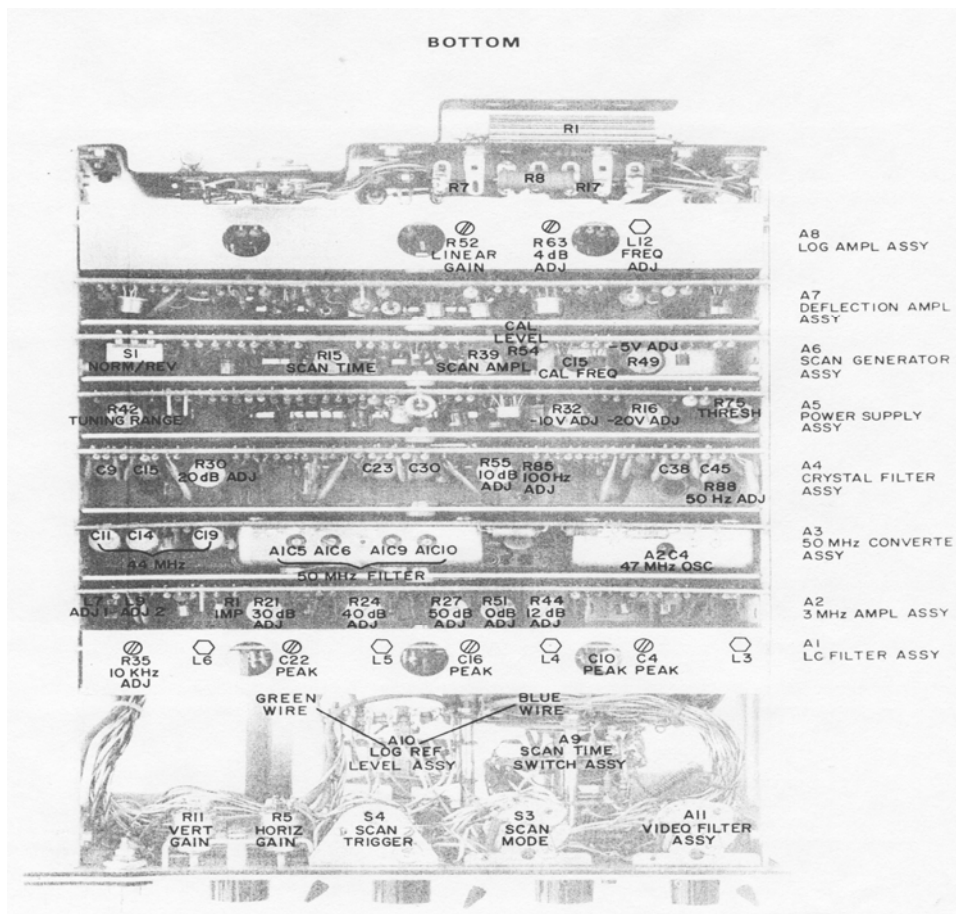
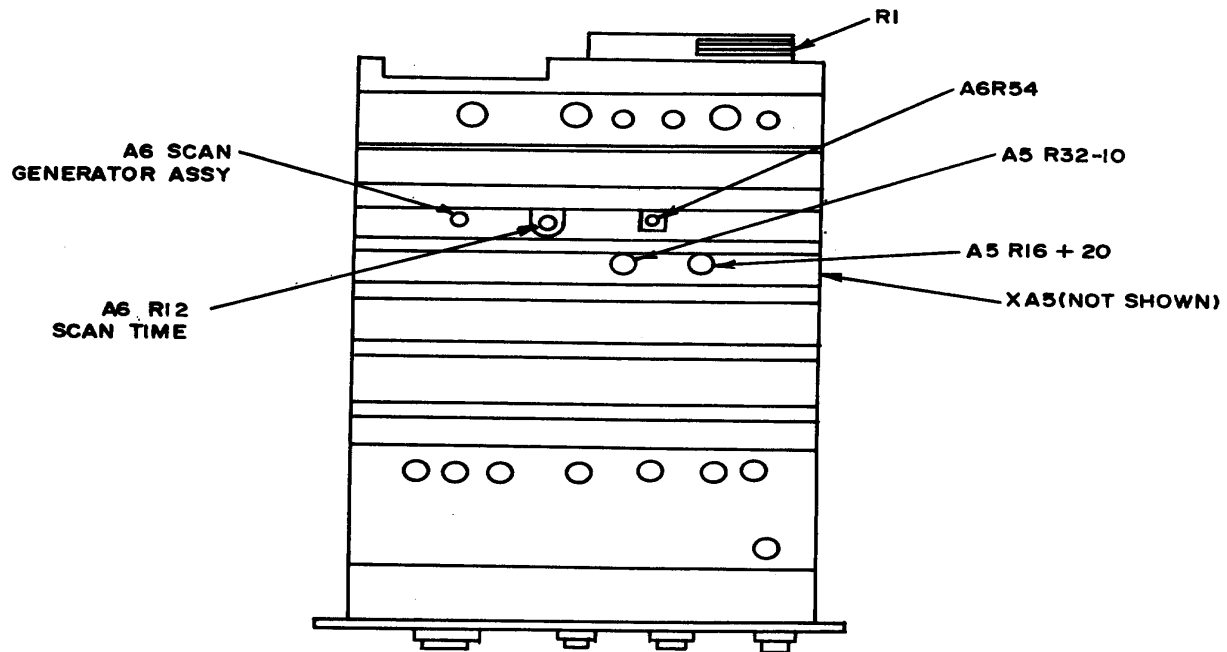
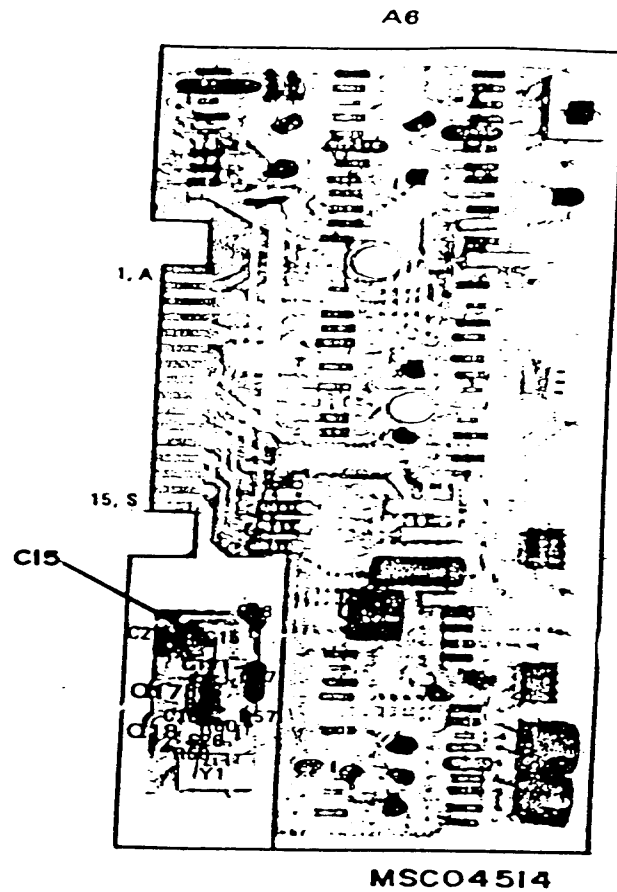

Figure 2. Model 8552A adjustment locations - bottom view.
Figure 3. Model 8552B adjustment locations - bottom view.
Figure 4. Test instrument - board A6 adjustment locations.
- (1) Connect TI to extender (supplied with TI) and connect extender to display section.
- (2) Adjust A6R54 (fig. 2 and fig. 3) for a -30 dBm  $\pm 0.3$  dB indication on measuring receiver (R).
(1) Connect TI to extender and connect extender to display section.
(2) Adjust A6C15 (fig. 2 or fig 4) for indication specified in **a(2)** above (R).